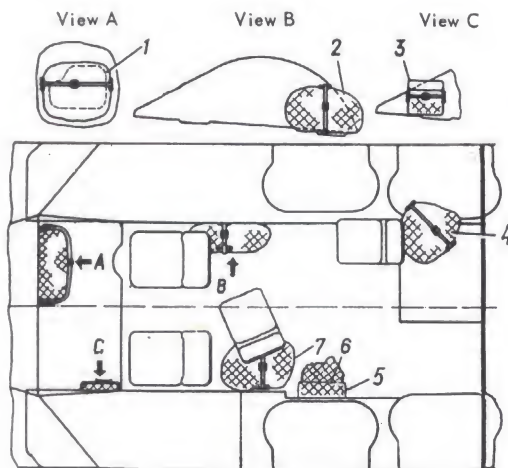

FIG. 120. ARRANGEMENT OF CREW'S STANDARD EQUIPMENT AND AUTOMOBILE DECONTAMINATION SET ДК-4Б IN VEHICLE
The ДК-4Б decontamination set is kept in special bag 5 (Fig. 120) attached by a strap to the left-hand bottom plate in the bay close to the left-side front auxiliary wheel. The gas liquid ejection hose placed in bag 6 is kept jointly with the ДК-4Б decontamination set.
1. Driver's rucksack 1 (Fig. 120) is attached by a strap to the winch hatch cover in front of the vehicle commander's seat.